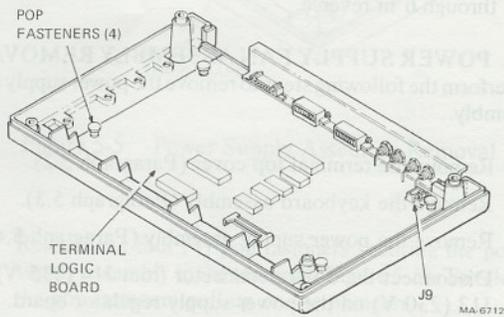

Figure 5-7 Terminal Logic Board Removal
4. Release the four (4) pop fasteners securing the logic board to the bottom cover (Figure 5-7). To release the pop fasteners pull up on the plungers.